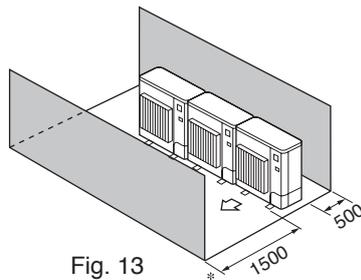

Fig. 13
(4) Obstacles at front and rear only (Fig. 13)